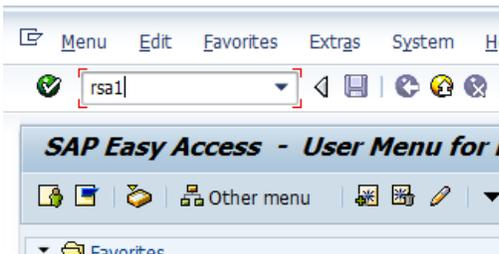

Figure 23 – Access data warehousing workbench
2.2 **Access data warehousing workbench** - Enter transaction rsa1 as shown in figure 23 to access data warehousing workbench.